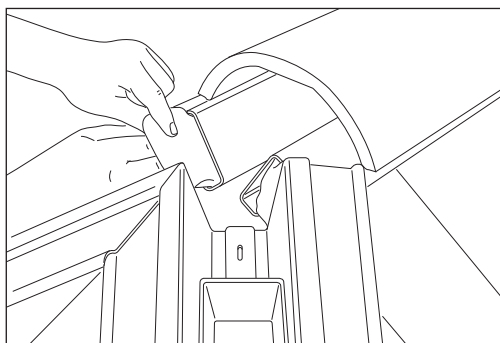

Fig 13 Insert closed cell foam rubber slip
- 23 At hip apex, mitre dry hip batten sections together as closely as possible. When forming a junction with the Marley Eternit ventilated dry ridge system, ensure the closed cell foam rubber strip 100mm longer than required, and insert into dry ridge batten sections to ensure a watertight seal (Fig 13).